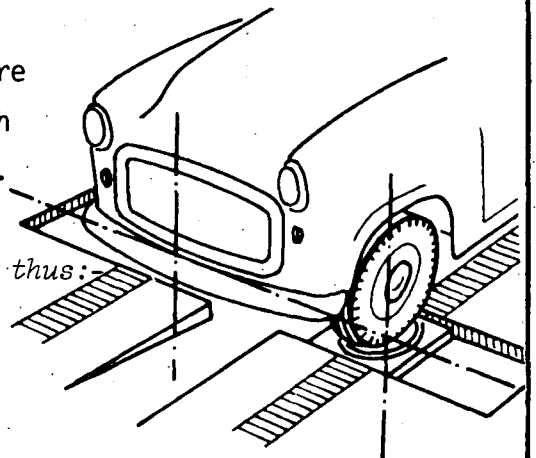

Fig. 1
- a) Place the vehicle on a pit on top the alignment platform (fig. 1).